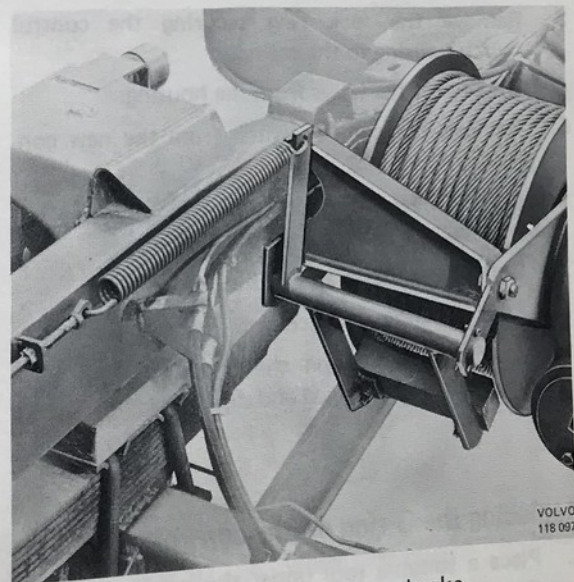
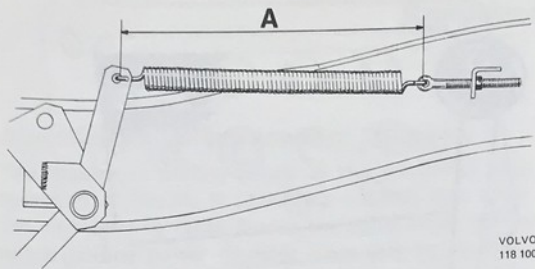

Fig. 92-16. Cable drum brake
Fig. 92-17. Check measurement for spring
9. Adjust the cable drum brake, see Fig. 92-16, with the adjusting nut so that the distance A is 320 mm (12.5 in.), see Fig. 92-17.